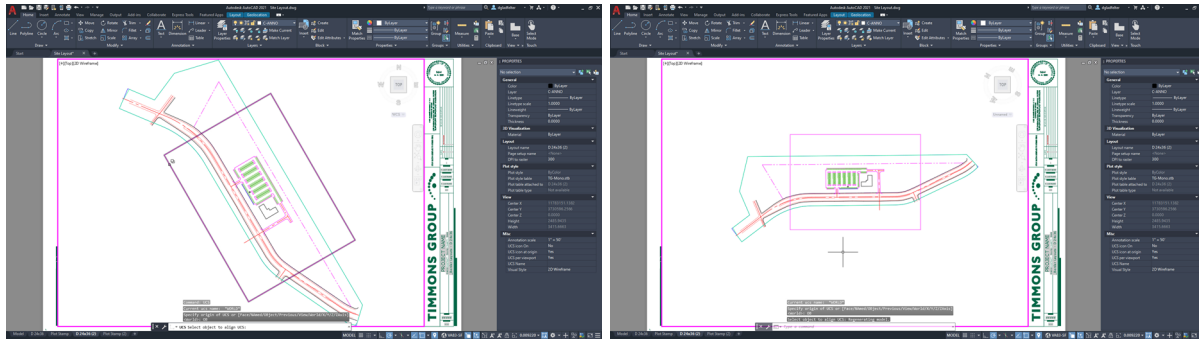

Figure 32: Original layout rectangle (left), viewport rotated to match layout rectangle (right).
7. Enter UCS at the command line and then choose the Object option. Select the layout rectangle positioned in Model Space (see Figure 32).